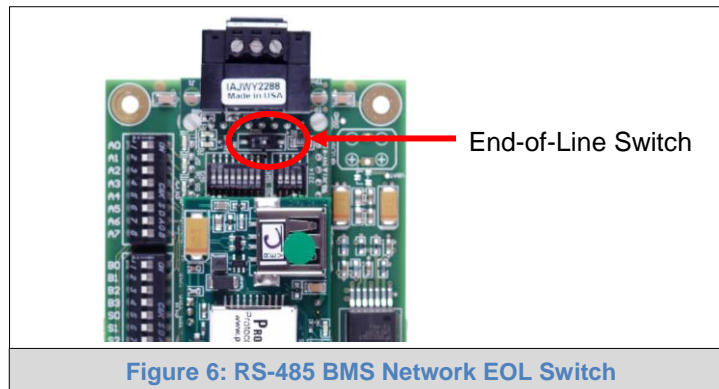

Figure 6: RS-485 BMS Network EOL Switch
- If the GW-KNX1 is the last device on the RS-485 trunk, then the End-Of-Line Termination Switch needs to be enabled. (Figure 6).